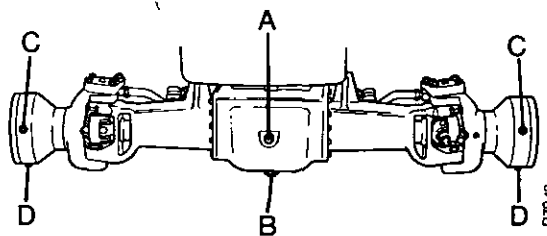

FIGURE 13. FRONT AXLE 4WD:
1. Clean around the drain plug B and filler/level plug A, Figure 13.
2. Move the tractor until one of the plugs on each hub is at the lowest point. See D Figure 13.
Every 250 hours, check the level of the oil in the front hubs and the differential. See Figure 13.